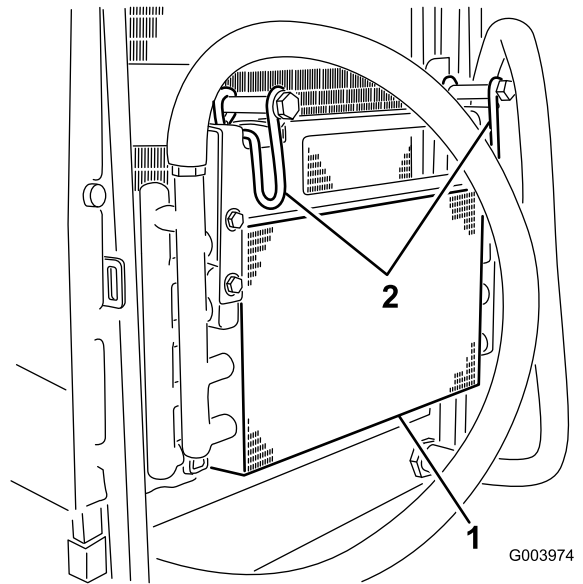

Figure 49
6. Pivot the latch inward to release the oil cooler (Figure 49).